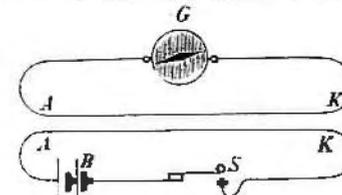

FIG. 199
Experiment. (1) If two conductors, AK and A'K', Fig. 199, be placed parallel to each